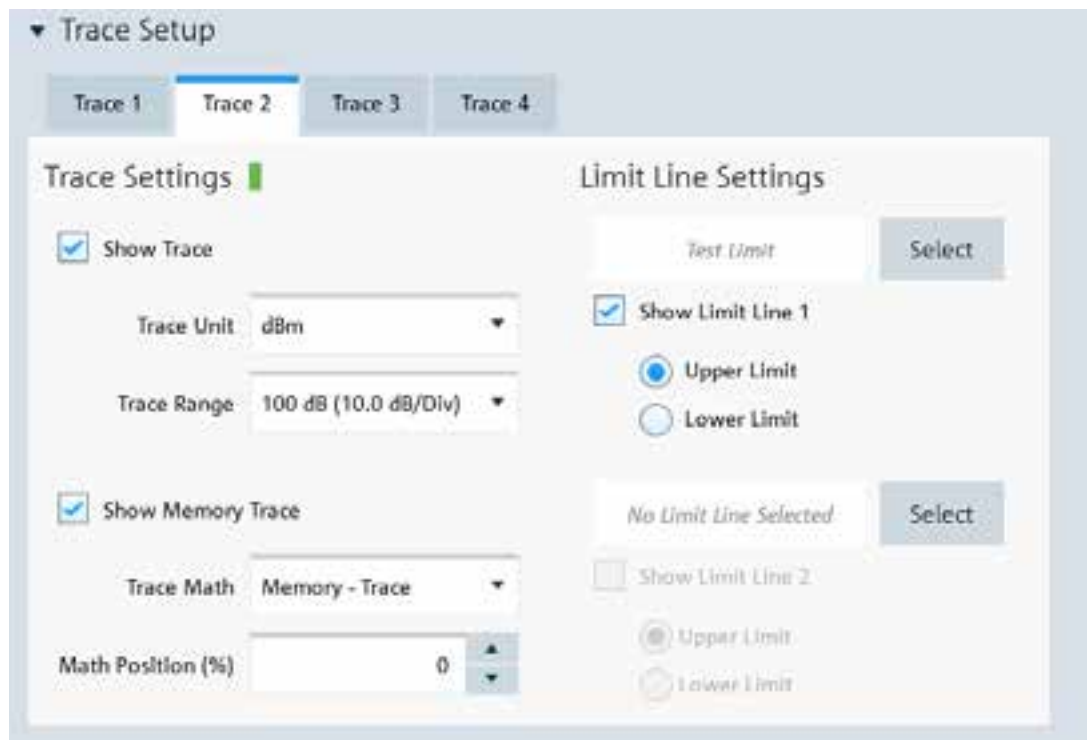

Figure 4-5: Trace setup
- Each trace is represented with a different trace color. If there is more than one trace in the same trace window, you can go to the individual trace tab to disable or enable the "Show Trace" checkbox to set the trace display. See Figure 4-5.